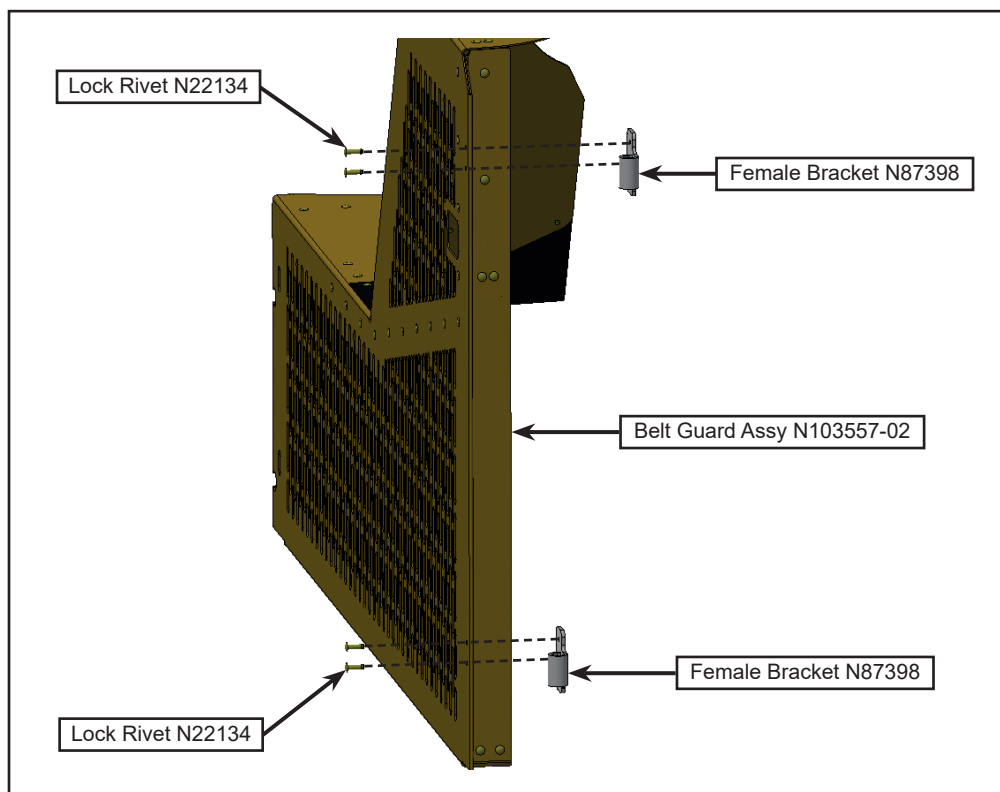

Figure 7 - Installation of Female Bracket with Lock Rivets
- 1.9. Fasten the hinge belt guard female bracket with rivets (see figure 7).